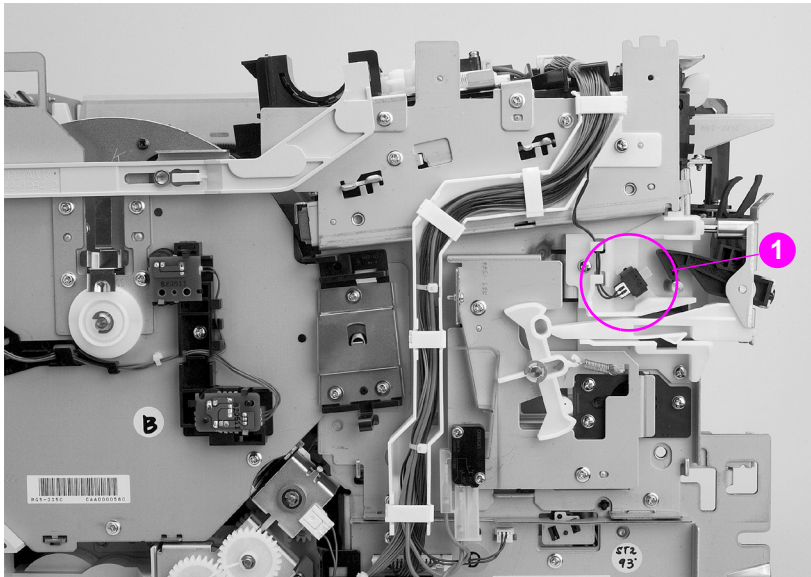

Figure 6-20 Drum drawer (top drawer) switch
- 7 Disconnect the drum drawer (top drawer) switch (see callout 1, Figure 6-20).